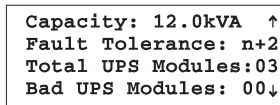

Fig 5-19 Power Status Screen
- 6. Press the down arrow key to scroll to the power module status screen. See figure 5-19.
Verify that the number of power modules reported (3 in figure 5-19) is the same as the actual number of power modules that are installed. Verify that the number of “bad” modules reported is zero. The first line of the power status screen displays the reported capacity of the Symmetra™. The reported capacity is dependent upon the number of power modules installed, and the size of the frame. Use table 5-1 to confirm that the PowerView is reporting the correct information.